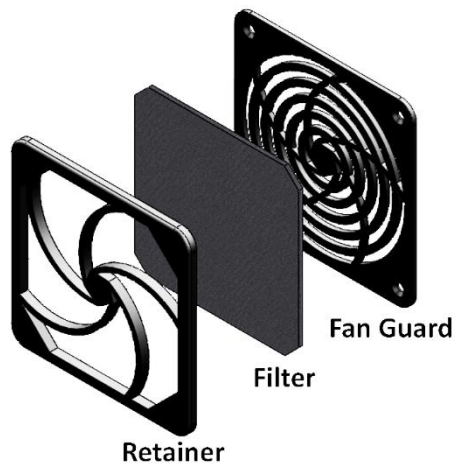

Figure 5.3b: DTS-2990 Fan Filter Assembly
3. Remove the air filter that is in between the Filter Retainer and Fan Guard. See figure 5.3b.